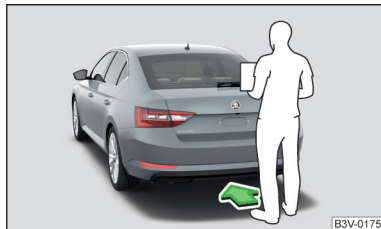

Fig. 47
- Move one foot in the sensor area below the rear bumper quickly in the direction of the arrow » Fig. 47.